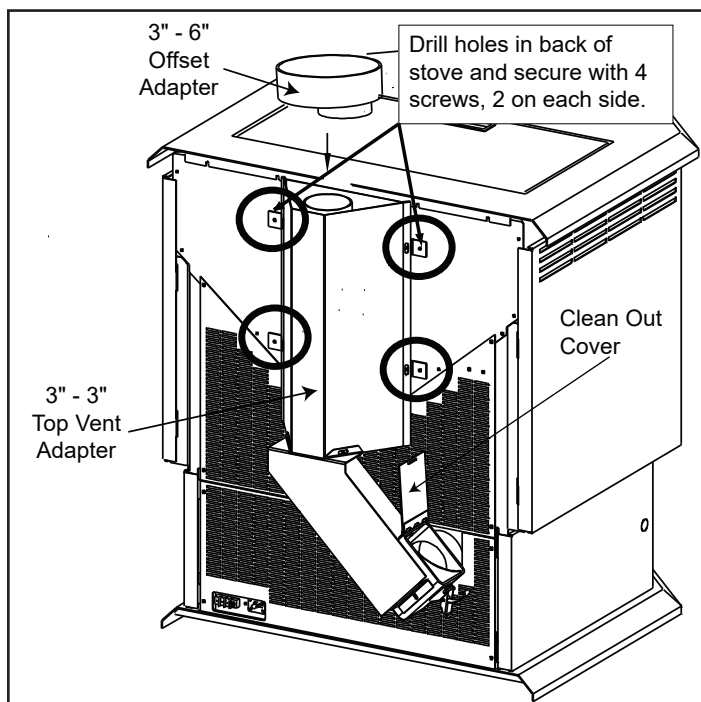

Figure 21.1
3. Drill 4 holes with #26 drill bit (provided) into the back of the appliance using the outer shield as a pattern (make sure the assembly is vertical). **Figure 21.1**
6. To clean the top vent adapter, open the clean-out cover. **See Figure 21.1**